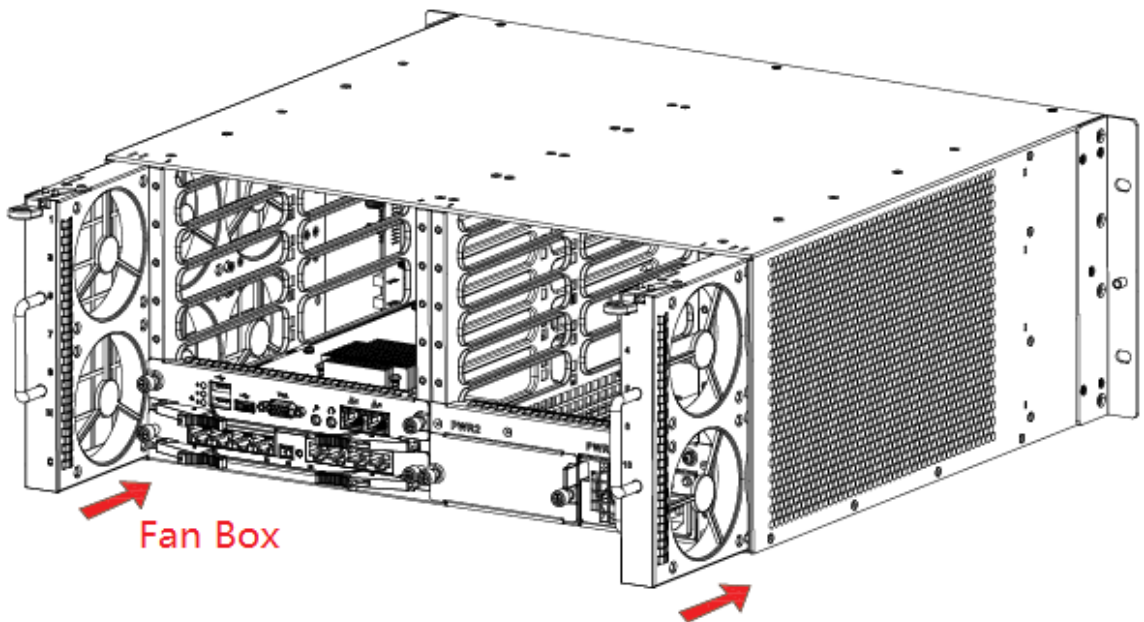

Figure 2-3
Step 4 Insert left and right fan boxes into corresponding positions, until the top snap joint is fixed, as shown in Figure 2-3.